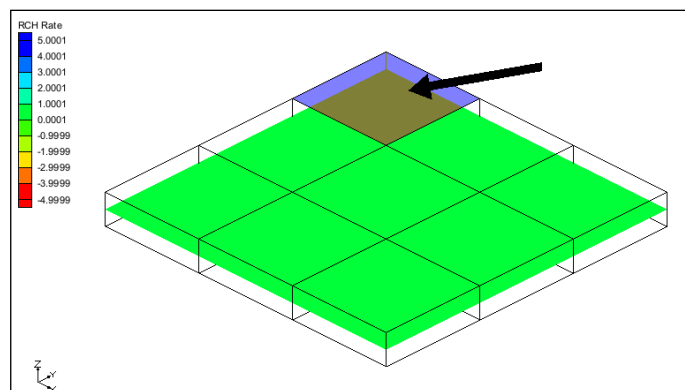

Figure 3 Select the cell indicated by the arrow (IJK: 1, 1, 1)
2. Using the **Select Cells**  tool, select the cell shown in Figure 3.